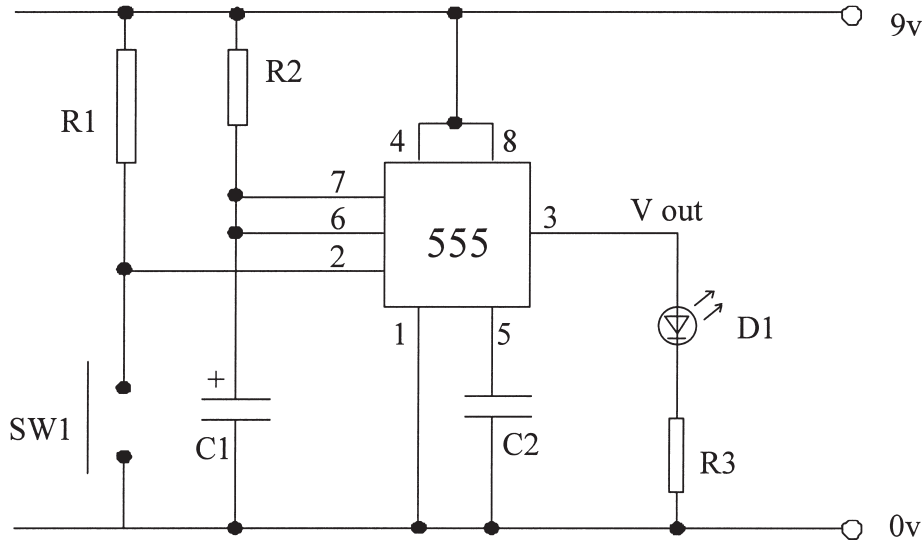

Figure 2
A2 A student has decided to use the monostable circuit shown in **Figure 2** as the timing element in a game being designed. The circuit is based around a 555 timer integrated circuit (IC).
- (a) Use the information given on the circuit diagram to help you to complete the table in **Figure 2** which describes the pins used for the connection of the 555 timer Integrated Circuit (IC).